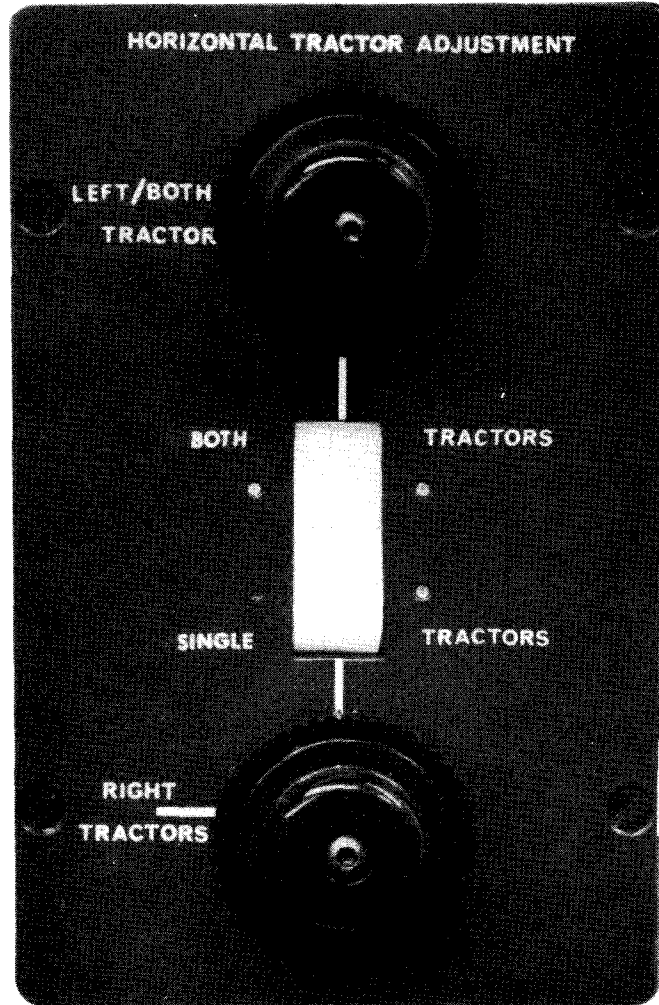

Figure 5-30. HORIZONTAL TRACTOR ADJUSTMENT Controls
10. Set the **SINGLE TRACTORS/BOTH TRACTORS** switch (Figure 5-30) to the **SINGLE TRACTORS** position to lock the tractors.
11. Pull out the **RIGHT TRACTORS** knob (Figure 5-30) to release the lock, and turn the knob so that the tractors are aligned with sprocket holes on right edge of forms and engage the sprocket holes with the sprocket. Close upper and lower tractors. Carefully move the tractors with the **RIGHT TRACTORS** control to cause a slight, horizontal tension on the form.
13. Set the **SINGLE TRACTORS/BOTH TRACTORS** switch to **BOTH TRACTORS** position (Figure 5-30).
14. Pull out **LEFT/BOTH TRACTORS** control (Figure 5-30) and turn it to position the form horizontally to the printing location required for that form.